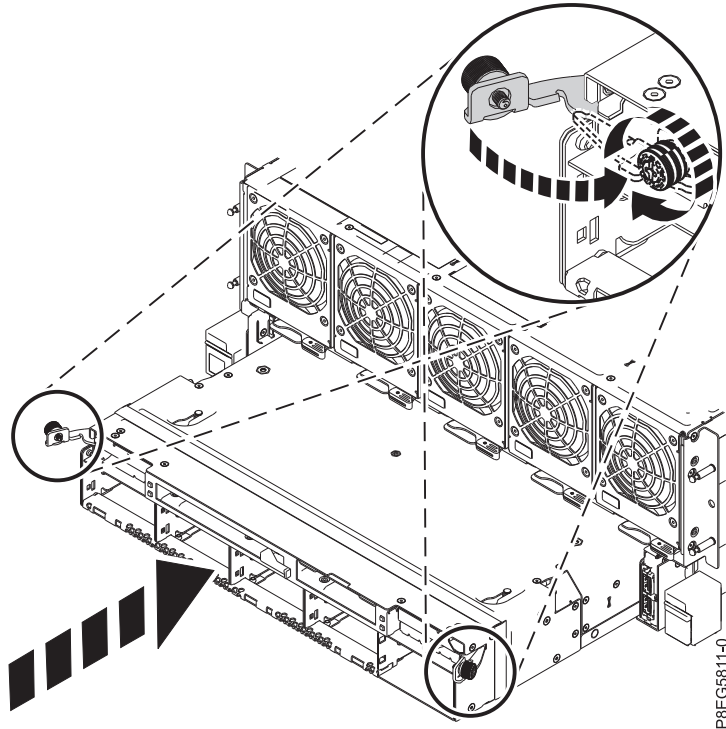

Figure 18. Replacing the RAID assembly
6. Slide the RAID assembly into the system. Push latches in and tighten thumbscrews, as shown in Figure 18 on page 15.